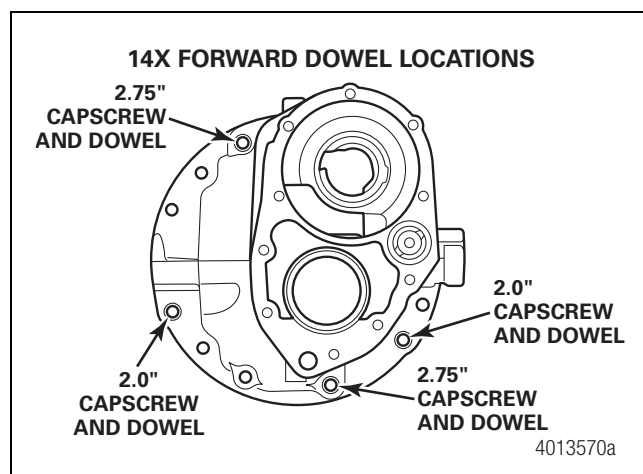
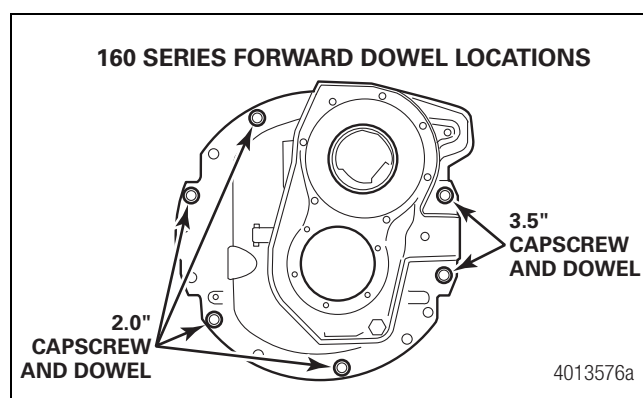
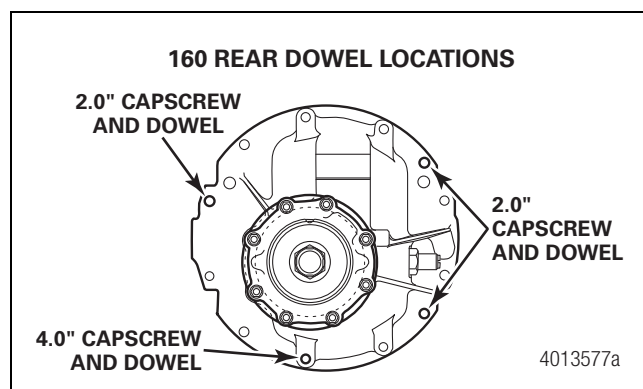
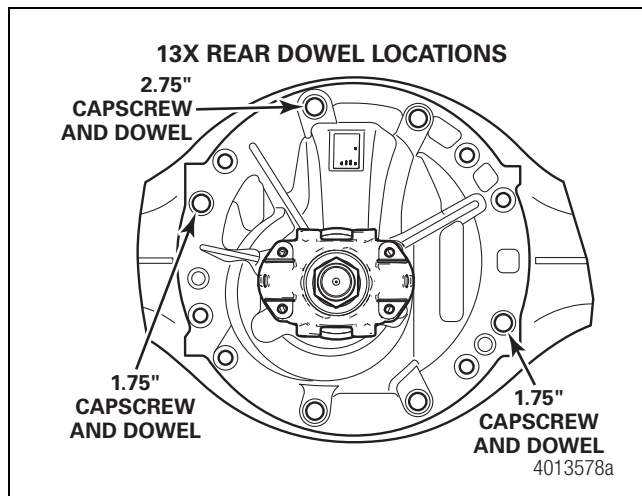

Figure 4.10
Figure 4.11
Figure 4.12
Figure 4.13
- A. Install the tapered dowels and washers and use the longest bolts (2.75" or 3.5") in the high-boss tapered dowel locations and the second longest bolts (2.0") in the standard carrier thickness tapered dowel locations. Use a crisscross pattern to tighten the tapered dowel bolts to a target torque of 225 lb-ft (range 210-240 lb-ft [285-325 N•m]). Figure 4.10, Figure 4.11, Figure 4.12 and Figure 4.13.